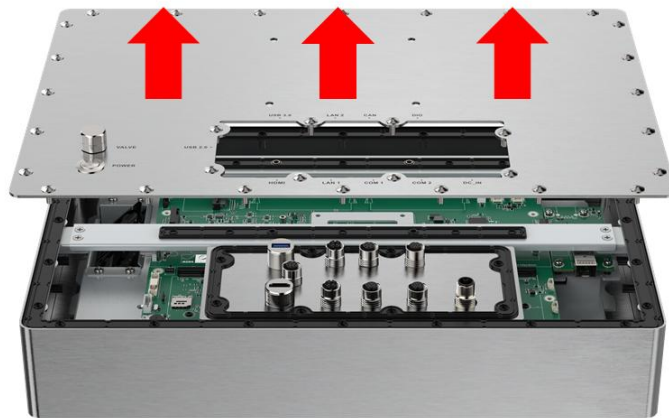

Figure 3-2: Remove the Back Cover
Step 2: Gently lift the rear cover upwards to separate it. Pay attention to the switch wire interface. Unplug the switch wire and remove the rear cover. See **Figure 3-2**.